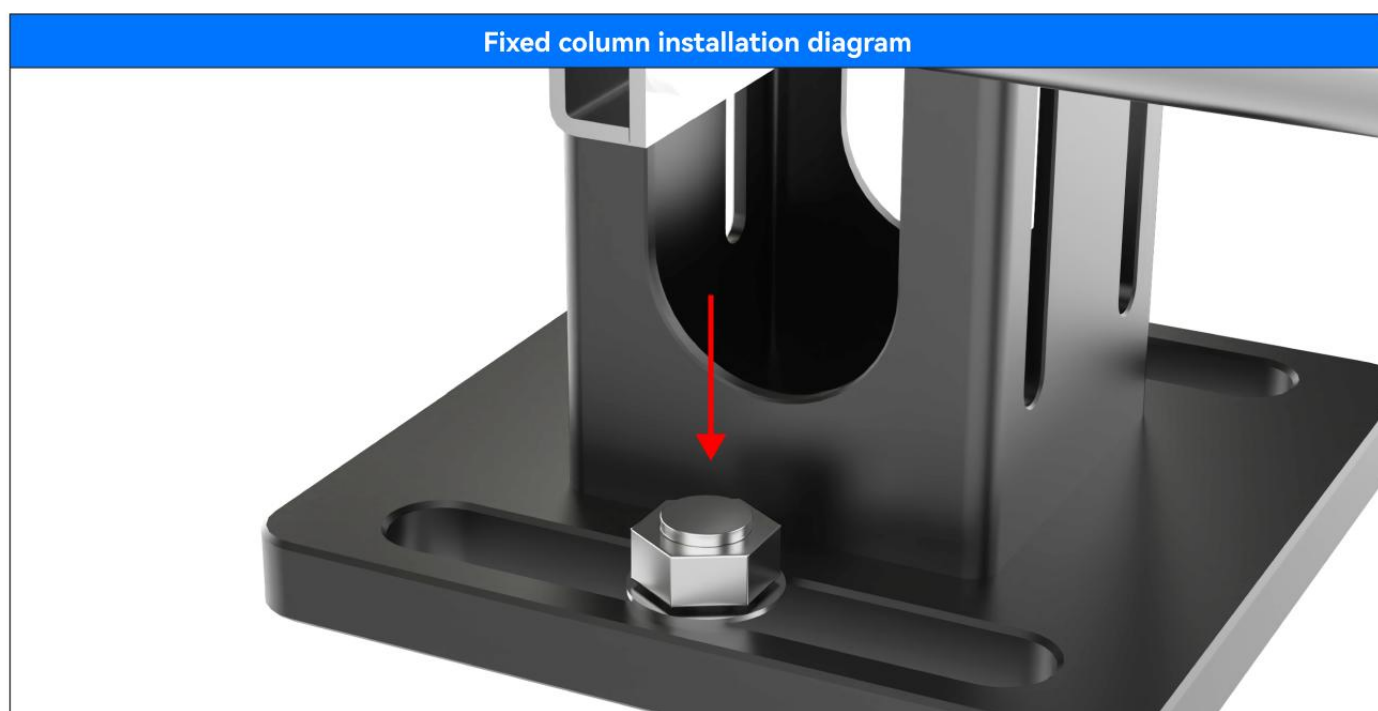

Figure 3.37
2. Align the slots in the base of the mounting column with the holes in the mounting plate, which is attached to the ship deck and prefabricated by your Marine or shipyard engineer. Secure the mounting column base plate with 2 x M16 bolts, washers, and nuts. At this stage, it can only be tightened by hand, as shown in Figure 3.37.